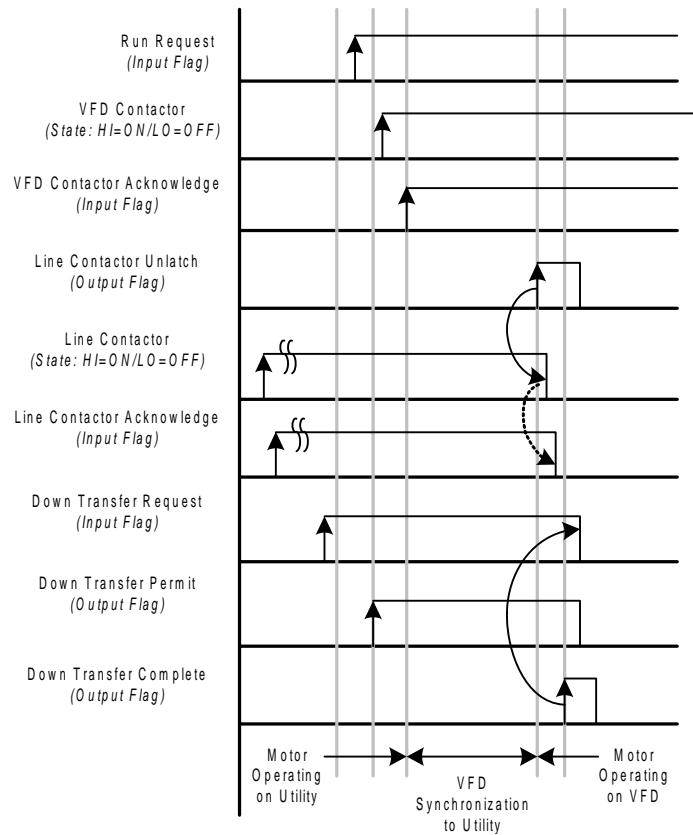

Figure 5-8. State changes during Down Transfer Sequence
1. The Down Transfer process (refer to Figure 5-8) consists of the following steps. The line contactor is assumed to be closed at the beginning of this procedure.